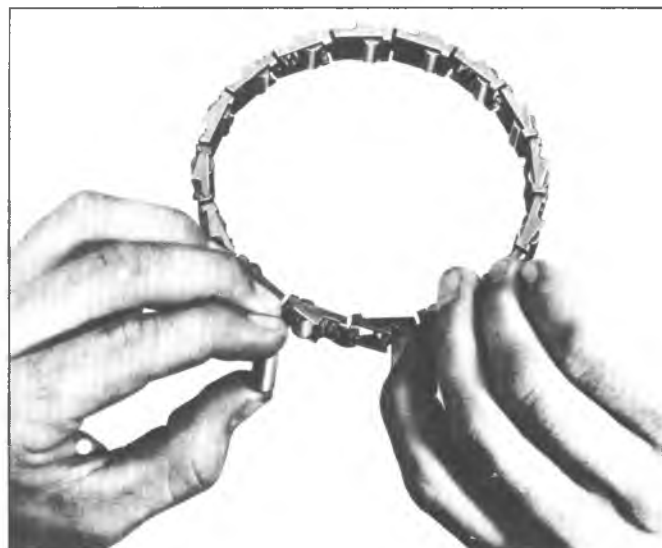

Fig. 123T--Installing Roller into Roller Clutch Cage
17. Install rollers that may have come out of the roller clutch cage, by compressing the energizing spring with forefinger and inserting roller from the outer edge (fig. 123T).